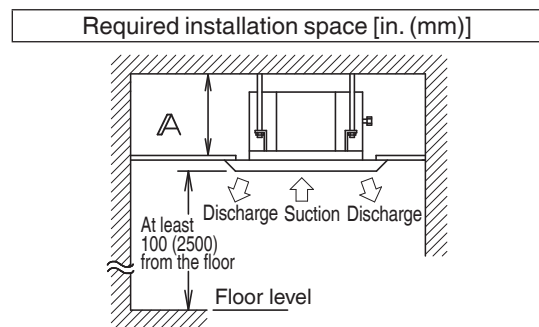

Fig. 1
(1) Select the installation location that meets the following conditions and get approval from the customer.
- Where a space sufficient for installation and service can be ensured. **(Refer to Fig. 1)**